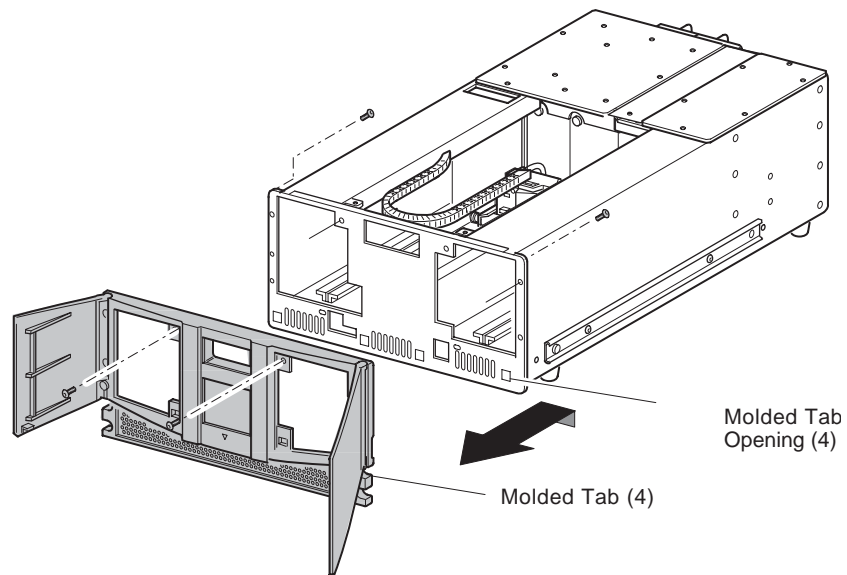

Figure 2-8: Removing the front panel
6. While holding the front panel against the library chassis, remove the two screws that secure the front panel to the library chassis (see Figure 2-8).
8. Carefully pivot the top of the front panel away from the library chassis approximately one inch. Lift up on the front panel so that the four tabs that secure it at the bottom clear the library chassis (see Figure 2-8).
9. Guide the cables out through the library chassis opening while removing the front panel (see Figure 2-8).